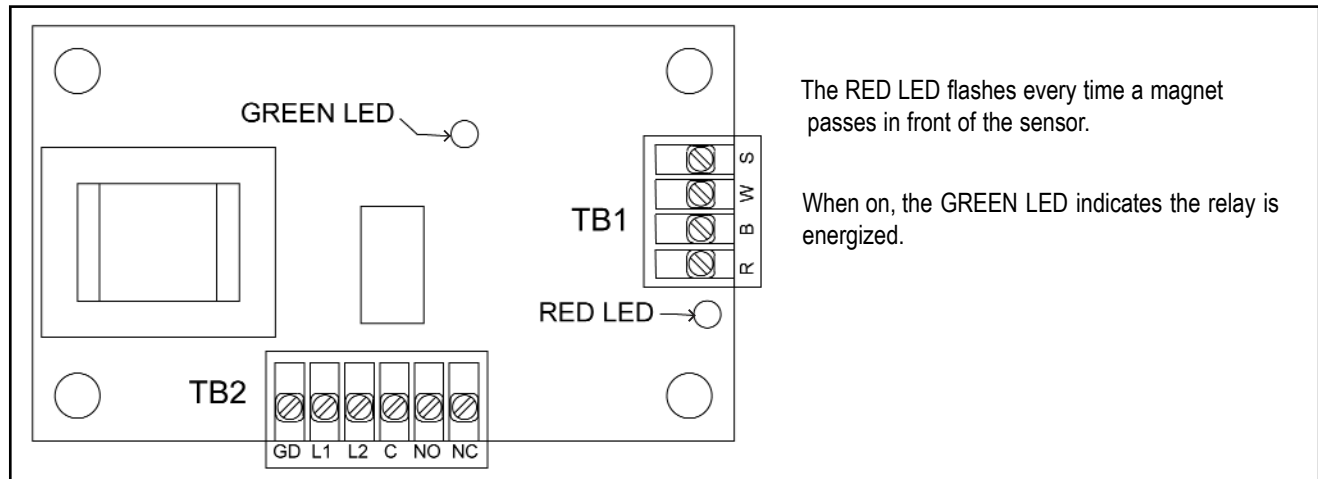

Figure 8
- 6.4** The RED LED should be flashing or appear "on" (steady) if the shaft is turning fast. This indicates the speed switch sensor is properly aligned with the magnetic target. (see figure 8, page 8)
- 6.5** The GREEN LED should be on, indicating the monitored shaft is rotating. The switch relay is energized when the GREEN LED is on. The GREEN LED shuts off approximately 3.8 seconds after the monitored shaft stops turning. (see figure 8, page 8)